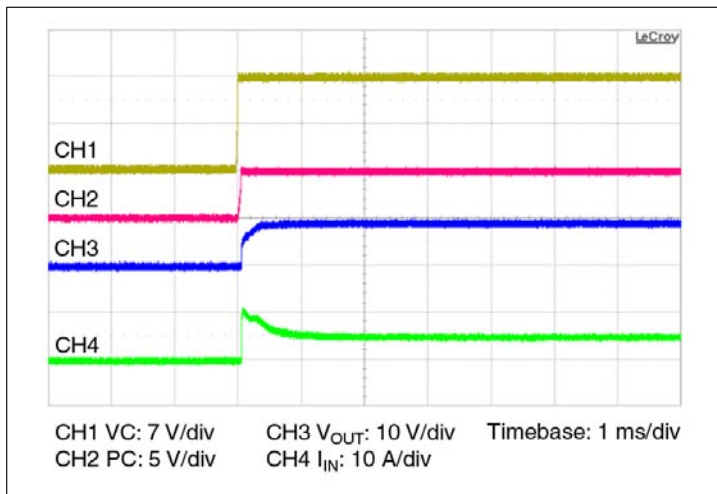

Figure 11 — Start up from application of VC;
- Stand-alone operation (VC applied after V_{IN}): In this case the VTM output will begin to rise upon the application of the VC voltage (See Figure 11). The Adaptive Soft Start Circuit (See Section 11) may vary the output rate of rise in order to limit the inrush current to its maximum level. When starting into high capacitance, or a short, the output current will be limited for a maximum of 1200 µsec. After this period, the Adaptive Soft Start Circuit will time out and the VTM module may shut down. No restart will be attempted until VC is re-applied or PC is toggled. The maximum output capacitance is limited to 1600 µF in this mode of operation to ensure a successful start.